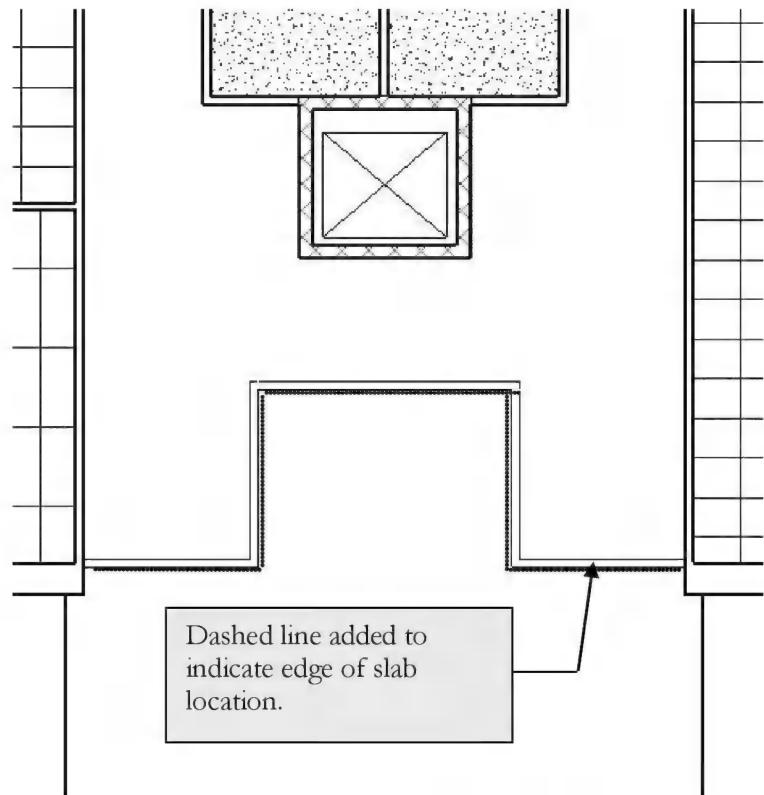

FIGURE 7-2.11 Bulkhead drawn
33. **Draw the bulkhead;** make sure you snap to the edge of the slab. Also, make sure the wall is under the floor system, not out in the opening. Do this by drawing the wall either from right to left or left to right depending on how you have the *Location Line* set (Figure 7-2.11).